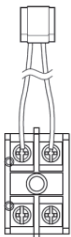

Fig.1
**Step 3.** Connect External cable with the sensor like Fig. 1.
[Fig. 1]
- ① Find backup heater terminal block Kit(Fig. 1).
- ② Assemble the terminal block kit using screw on unit.